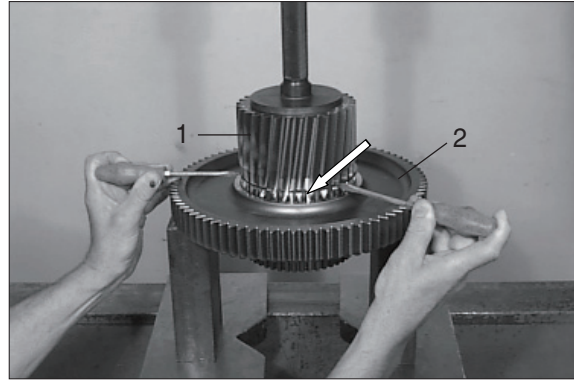

Figure 182
**Preamble and install spur gear K2 (figure182~186) :**
- (1) Undercool gear 1 (approx  $-80^{\circ}\text{C}$ ) and heat gear 2 (approx  $120^{\circ}\text{C}$ ). Engage the snap ring (arrow), preload it and join both components by means of hydraulic press until the snap ring engages into the annular groove of gear 2.